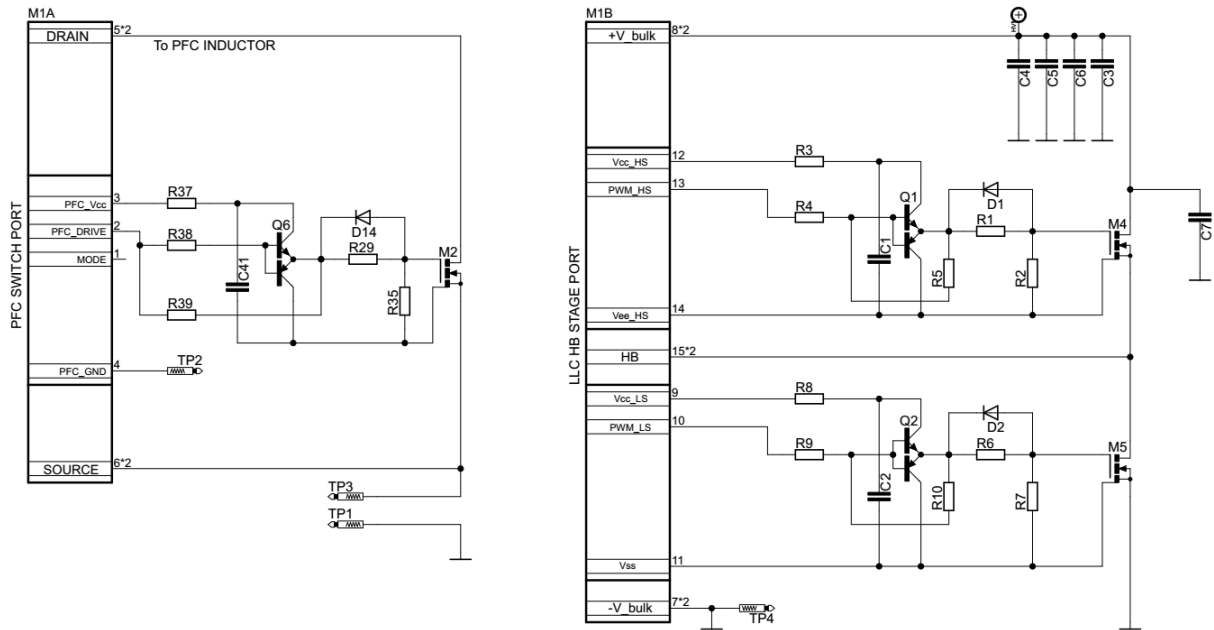

Figure 5. 150 W High Power Density Adapter – Schematic Of The Switch Module With Si MOSFETs
The PFC front stage implements critical conduction mode PFC boost converter and consists mainly the bulk capacitor C8, which is decoupled at high frequencies (HF) with multi-layer ceramic capacitors (MLCC) C9–11, PFC inductor L4, rectifying diode D10 and power switch (Figure NO TAG.), which is located on Power Switch Module (Figure 5.). The PFC controller NCP1615 senses inductor current directly as a voltage drop on resistors R13, R14. These resistors are connected directly to Control Module, where the PFC controller is located. These resistors define maximum PFC front stage peak current. The PFC controller U1 (NCP1615) uses CS/ZCD for inductor peak current sensing and zero current condition or valley detection. Zero current detection is guaranteed by PFC coil auxiliary winding voltage, which is rectified with D9 and this signal is connected to Control Module via parallel RC circuit R10 and C7. Input voltage is observed at HV pin, which also serves for input voltage sensing and BROWN-OUT protection. The bulk capacitor voltage is fed into PFC controller through set of four resistors R15, R16, R17 and R18. Necessary PFC compensation circuitries and components are located on the Control Module board. The PFC OK status is transferred via network of C9, R13, C13 and R18 to LLC controller, which is subsequently enabled after PFC provides PFC OK status. For more details, please refer to NCP1615 datasheet.
Power Switch Module with Si SJ MOSFETs is showed in Figures 5, 15, 16. Power Switch Module consists of power